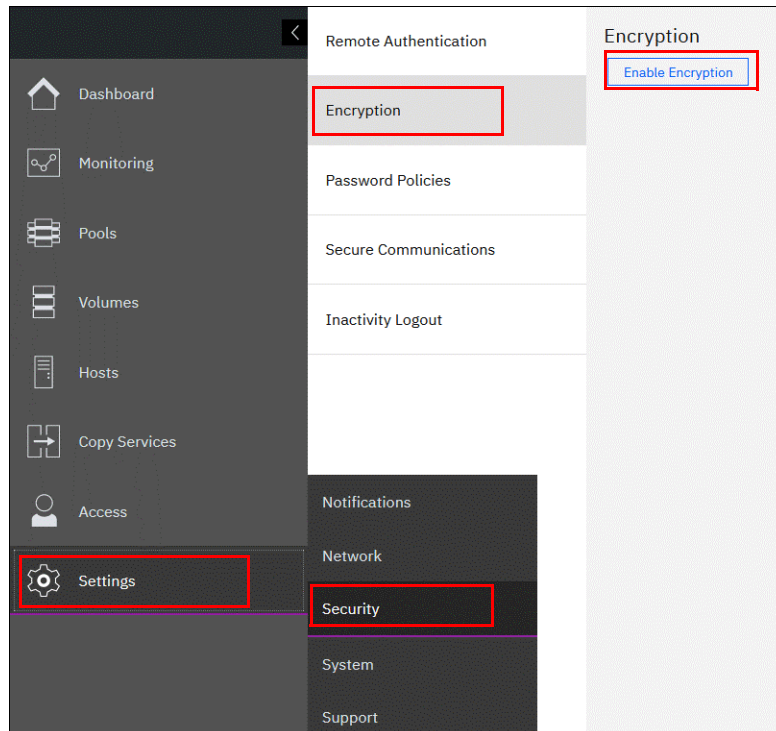

Figure 12-22 Enable Encryption from the Security window
- ▶ You can select **Settings** → **Security** → **Encryption**, and then click **Enable Encryption**, as shown in Figure 12-22.